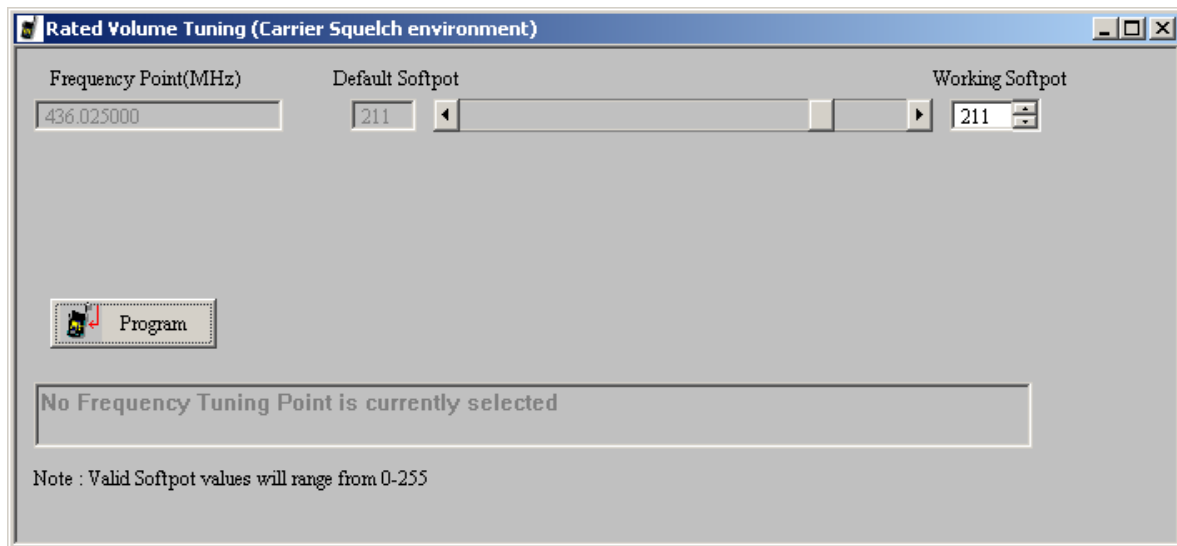

Figure 4-9. Rated Volume Tuning Window
1. Under the **Rx Align** menu, select **Rated Volume** (Figure 4-9).